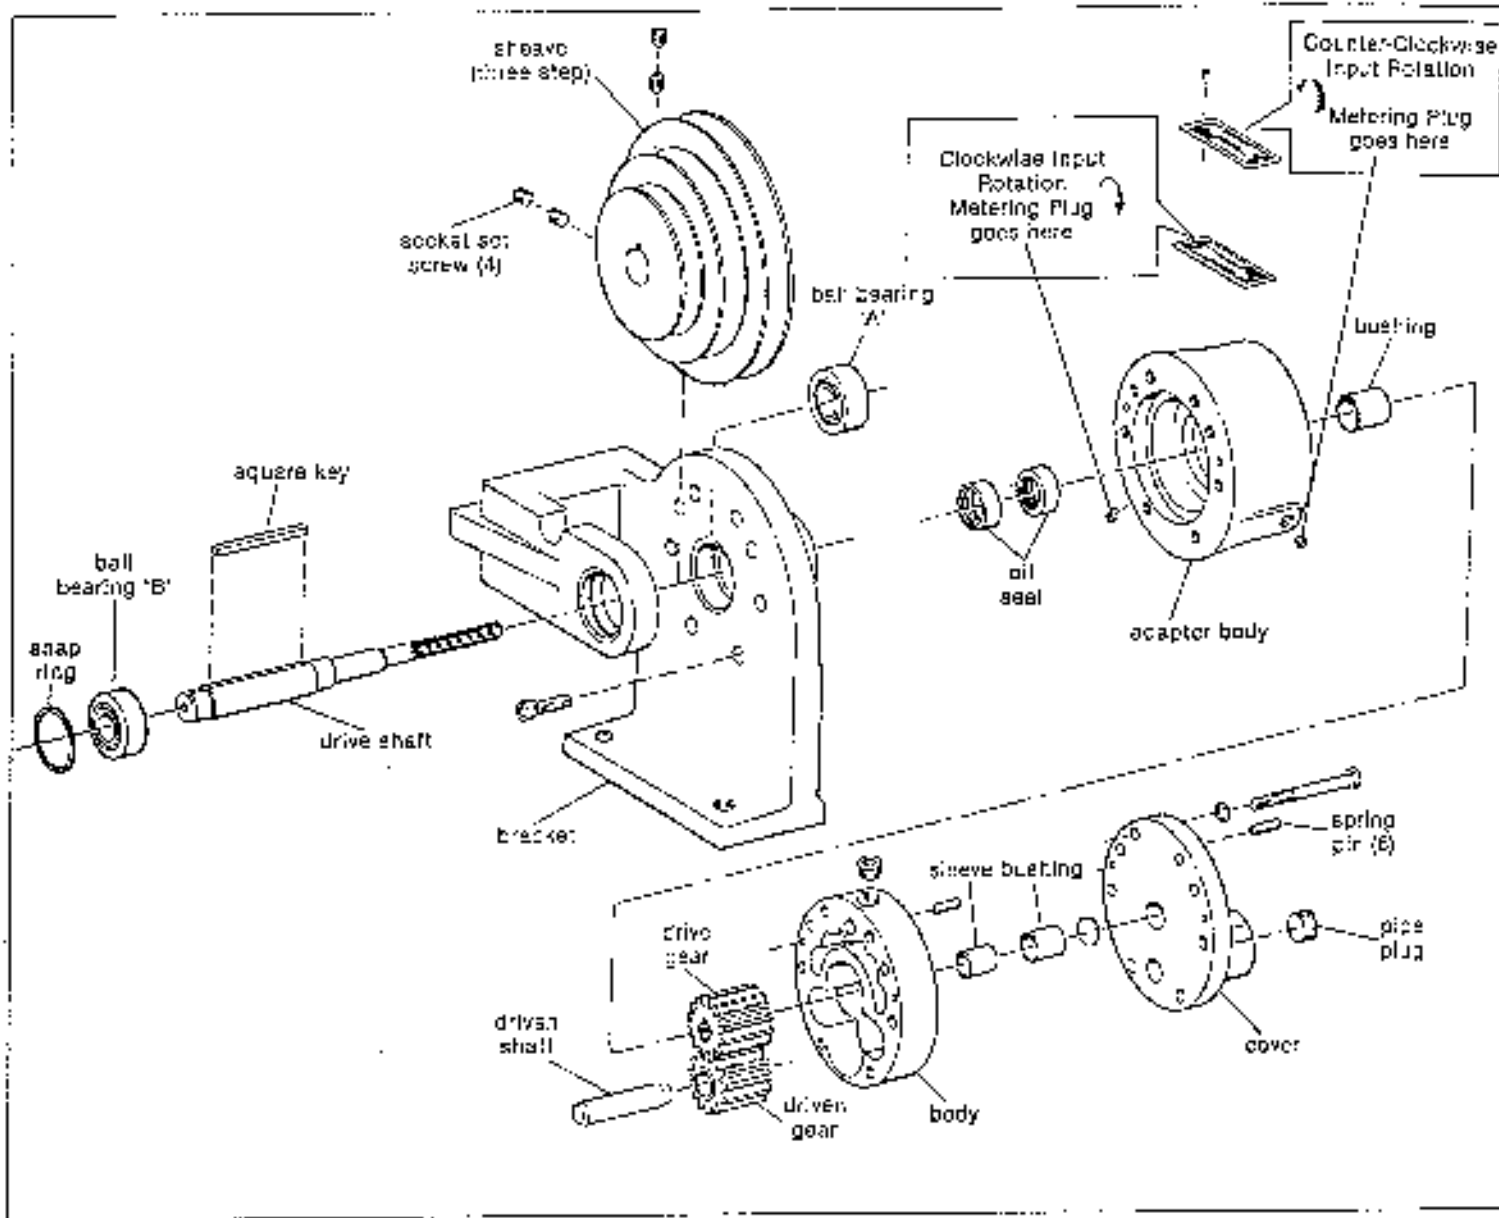

Fig. 19. Oil Pump; Belt Driven Single Style Shown
2. Install ball bearing 'A' (see fig. 19).
4. Apply very thin *coat of Permatex 'Super 300' or equivalent to mounting faces and following punch marks place adapter body with bushing installed on bracket. Secure with socket head capscrews (2).
5. Hold sheave and drive belt in position in bracket and with keyway aligned slide drive shaft and key into place, splined end first. Install socket set screws (4) in sheave.
6. Tap ball bearing 'B' (see fig. 19) into bracket and secure with snap ring.
9. Apply thin *coat of sealant and install cover following punch marks. Loose insert hex head capscrews. Install spring pins (6) flush with cover. Torque capscrews (9) to 16 lbs.-ft.